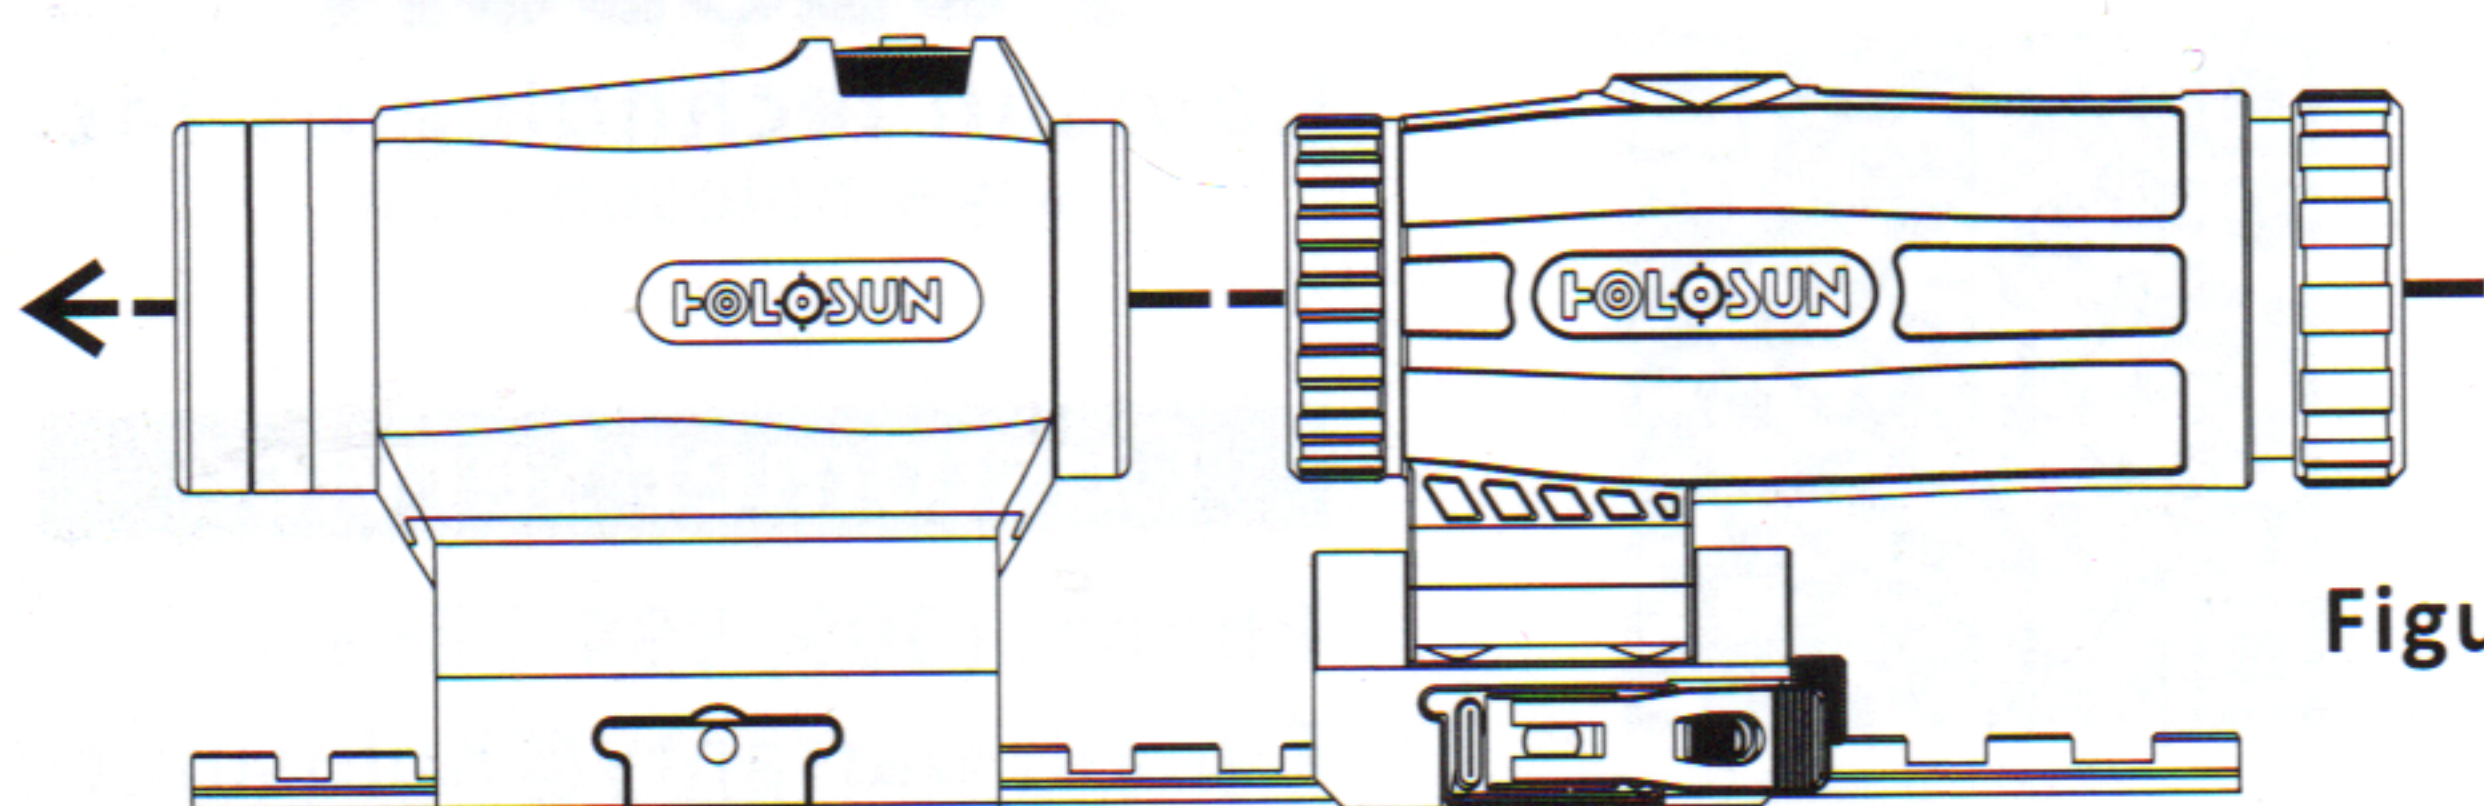

Figure 2
1. Combine the HM3X-T with a HOLOSUN sight for improved target identification at distance. (as shown in Figure 2)